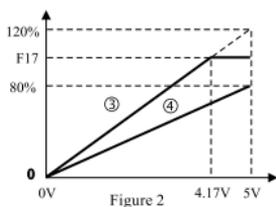
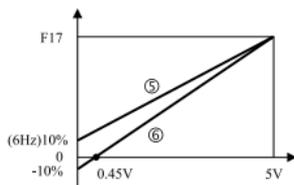

Figure 2 1. Ai maximum output frequency=(F17) upper limit of frequency * (F45) gain ratio.
Figure 3 1. Frequency at bias=(F17) upper limit of frequency * (F44) bias ration (as shown in curve ⑤).
※ Please refer to the Figure 2 and Figure 3 and see the description of parameter along different curves in the table below :
- In Figure 3, F50 set value is 4 for the display of output voltage, F52 set value is 2200, reference standard point is 220V, and the analog output signal AO is DC+10V.